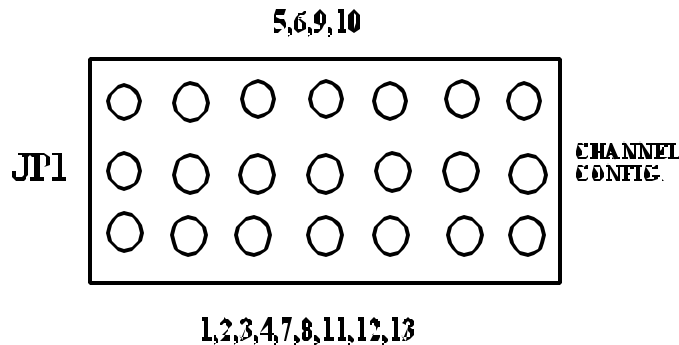

Figure 1. ASM Card Jumper Block
6. On both the operational and spare ASC, set the backup channel configuration using the 7 jumpers on JP1. Using all seven jumpers, move the jumpers to the side of the block that lists the number of output channels for your site configuration, the center row of pins being common. Example: Using **Figure 1** as a reference, if your site configuration had 5, 6, 9, or 10 transmitters, each jumper would connect from the center row of pins to the top row of pins. If your site configuration had 1, 2, 3, 4, 7, 8, 11, 12, or 13 transmitters, each jumper would connect from the center row of pins to the bottom row of pins.